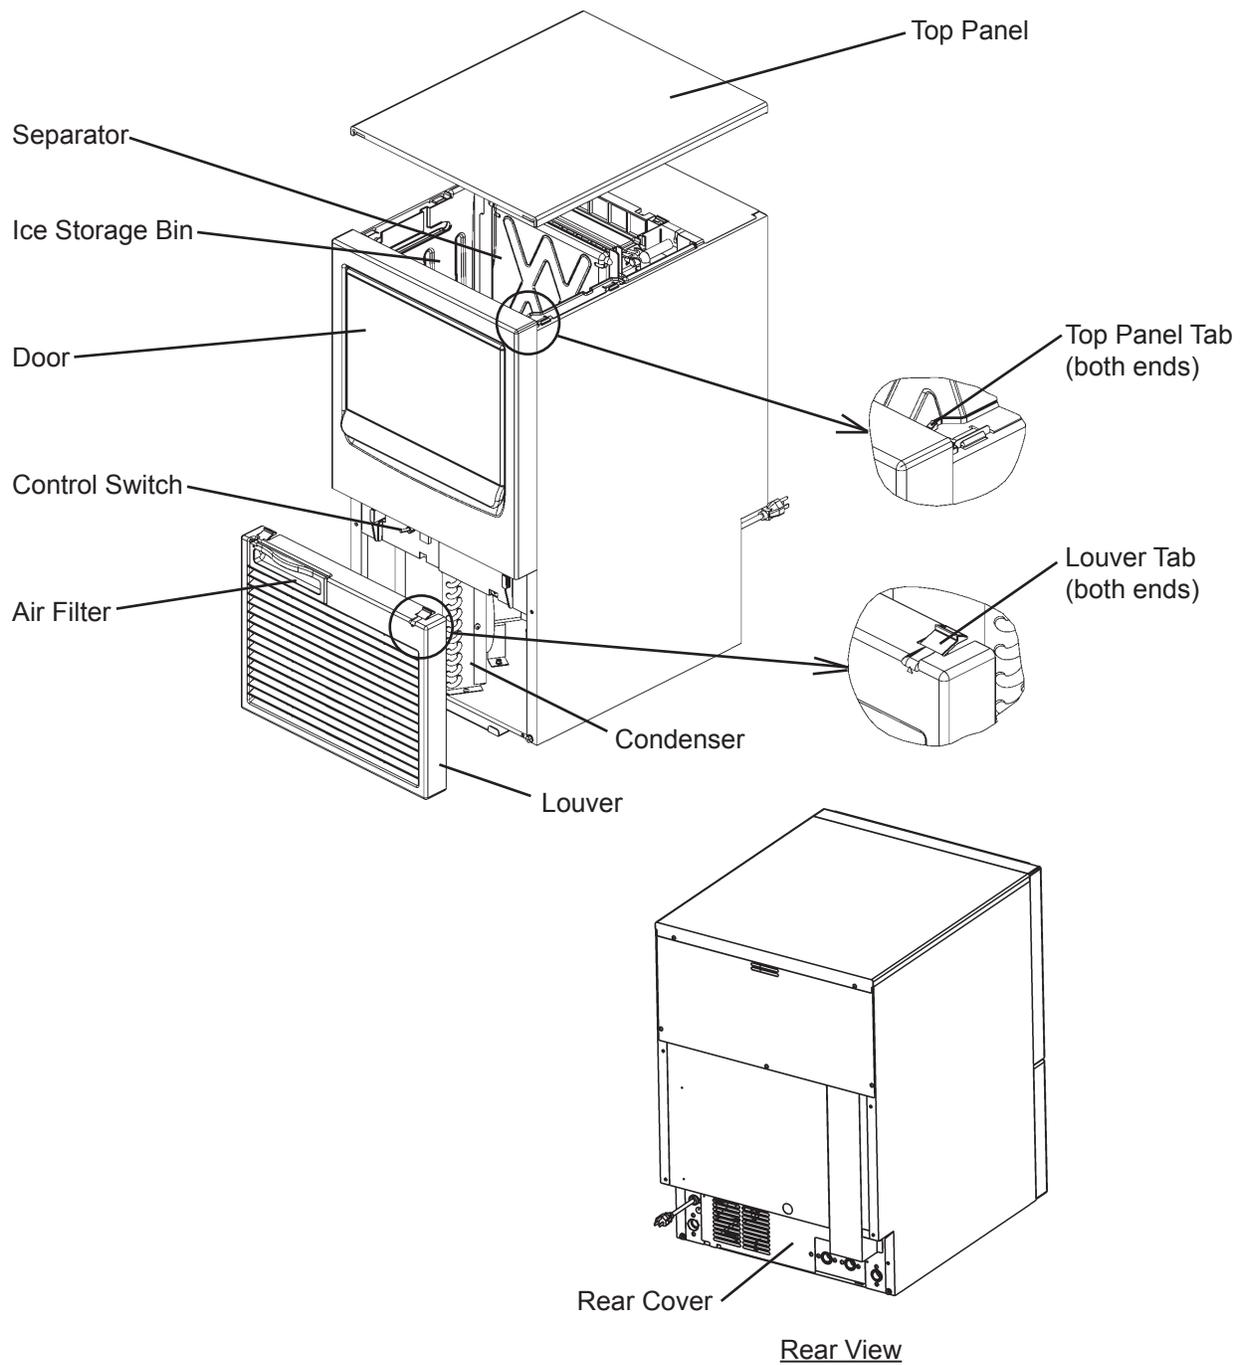

Fig. 1
<ul style="list-style-type: none">• Remove all shipping cartons, tape, and packing material. If any are left in the appliance, it will not work properly.• Remove the shipping tape holding the door and separator. See Fig. 1.
- Remove the shipping tape holding the door and separator. See Fig. 1.
C. How to Remove Panels - See Fig. 1